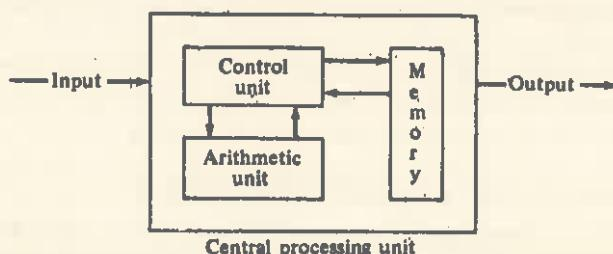

Fig. 39.5 Central Processing Unit
- A *computer system* has three basic units. These are its *input*, *output*, and *central processor*. The input unit is the means by which data are supplied to the computer (see Fig. 39.5). Input devices include punched-card readers, magnetic tapes, and disks. The central processing unit (CPU) is usually considered the heart of the computer and is composed of a control, arithmetic, and memory unit.